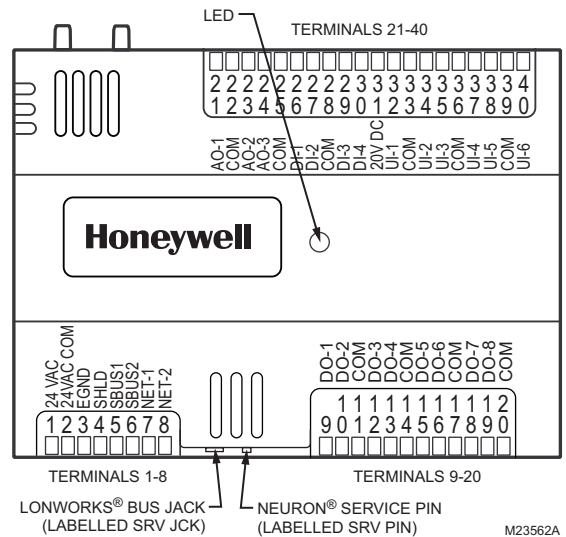

Fig. 22. LED, Service Pin, and Network connection locations.
Refer to Fig. 22 and the following text for startup information.
- To send the Service Message from the controller, press the NEURON® Service Pin pushbutton on the controller (see Fig. 22). This button sends out the Service Message when it is pressed, regardless of the controller’s current mode of operation.